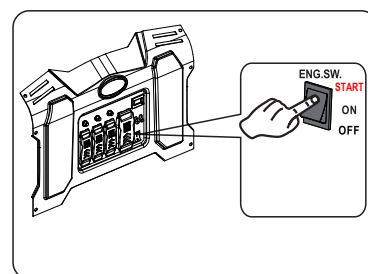

Fig 12 Electric Start
- For electric start, Push and hold the engine START/ON/OFF switch in the “START” position. Do not hold the START/ON/OFF switch in the “Start” position for more than 15 seconds. Allow 1 minute between starting attempts. (See fig12)